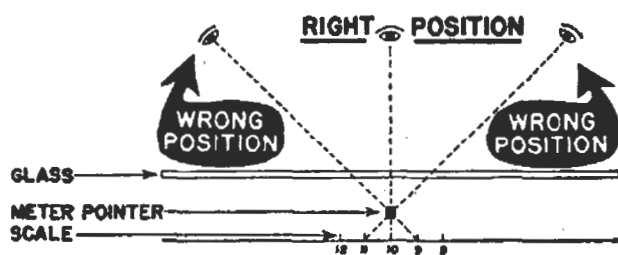

FIG. 4. Always look straight at a meter to avoid parallax.
**Parallax.** Inaccurate readings may result from looking at a meter scale from an angle rather than from right above it. Figure 4 shows you why.